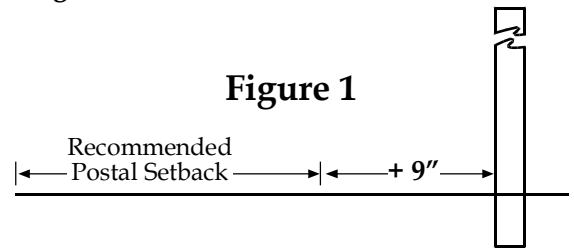

Figure 1
**IMPORTANT!** Before installing your Whitehall mailbox posts, consult your local branch of the US Post Office for road set back and height requirements from roadbed or curb. See Figure 1.
- Consult your local post office for recommended road setback and height requirements. Add 9" and mark position on ground for front edge of post. (See Figure 1)